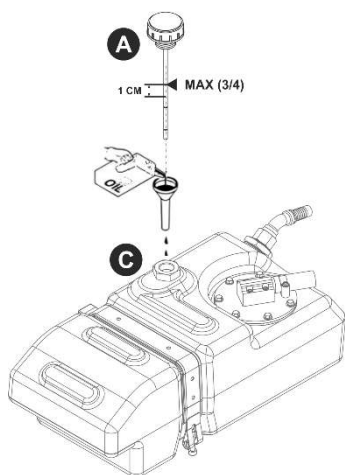

fig. 5.3 – Oil Level
The correct level is when, with the oil cold, it does not exceed the mark on the dipstick (approximately  $\frac{3}{4}$  of the tank) and does not fall more than 1 cm below the mark (see fig. 5.3).
- Unscrew the breather cap “A” on the tank (see fig. 5.3), and extract the oil using a suitable suction pump;